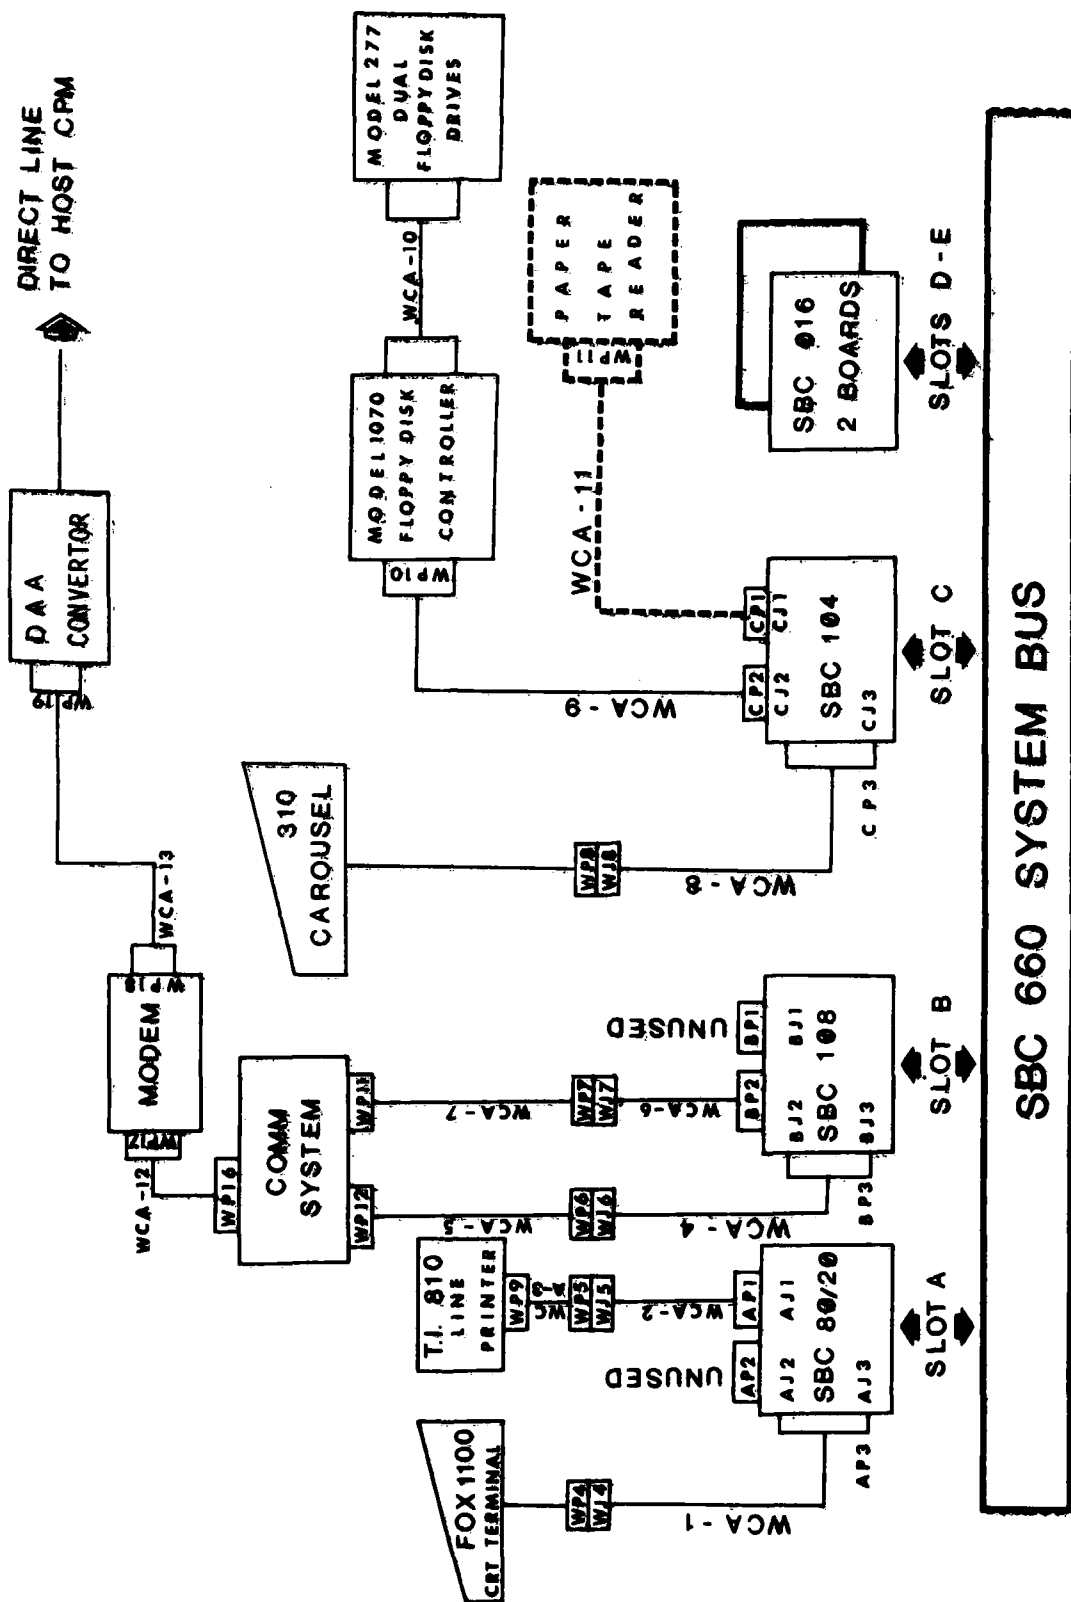

Figure 1. Waiver File Intelligent Terminal system configuration.
The USAFSAM Waiver File Intelligent Terminal (Fig. 1) is a hybrid of many state-of-the-art microprocessor-based systems. The foundation consists of an Intel SBC 660 chassis main frame that includes:
4. A communication-system interface (WJ6 & WJ7, Fig. 1) was designed to operate with an encryption/decryption device (comm system, Fig. 1). When long-distance communications with the host computer were required, the comm system could be used to insure data integrity. Operation of the Waiver File Intelligent Terminal in this mode required a modem and special DAA converter. Due to changed location of the Waiver File Intelligent Terminal, the comm system as designed is no longer planned for use; only the serial-communications port (available through connector WJ6) will be used.
5. A high-speed paper-tape reader (Fig. 1) is available for laboratory testing. This capability is used only within the design laboratory and is not supported for the operational terminal.